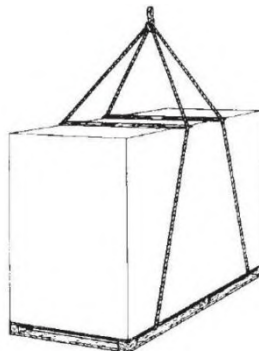

Figure 1
4. When lifting and transporting the unit, the unit should avoid scratching or deformation of the body, and protective pads or other supports should be placed on the contact part between the cloth belt and the body. Refer to the following schematic diagram (Figure 1)